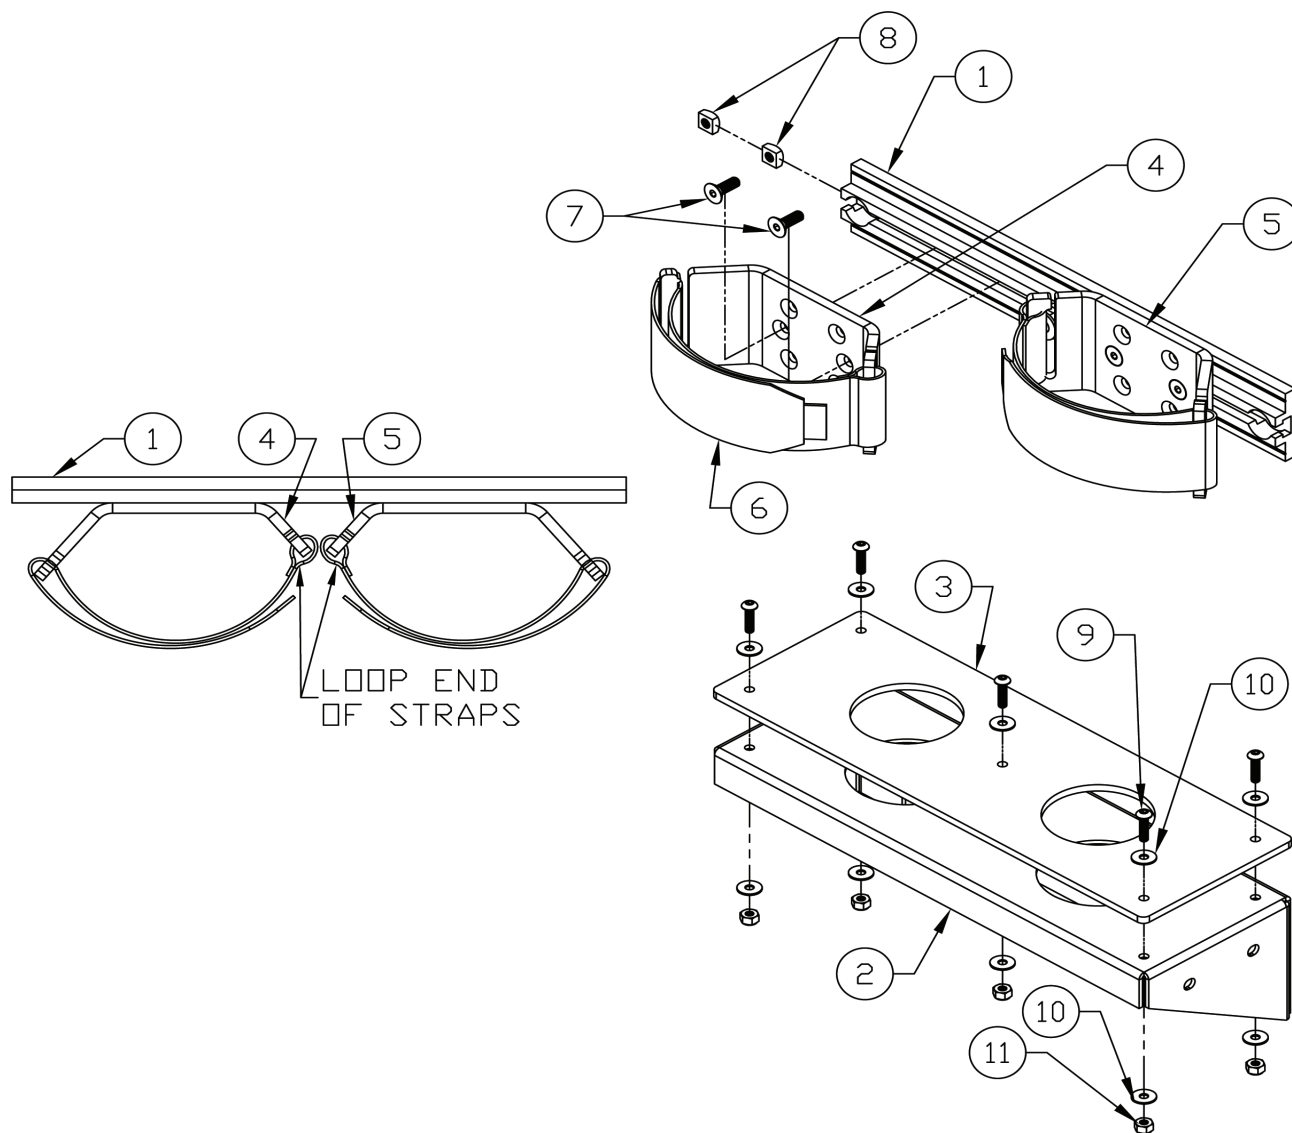

Figure 1A - Model VM-3RS-D
1. Figures 1A & 1B show the parts breakdowns of the Variable Strut Mount assemblies.